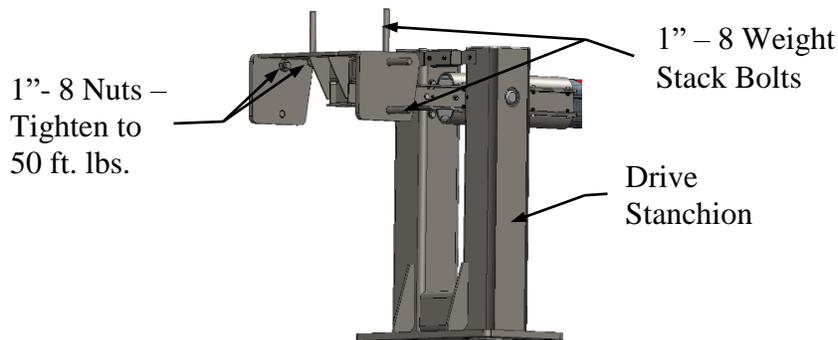

Figure 9 - 775MD Counterbalance Assembly (weights not shown for clarity)
4.3.8.1. Check the 1 in. nuts holding the counterbalance weights. If loose, tighten to 50 ft. lbs. See **Figure 9 - 775MD Counterbalance Assembly** (*weights not shown for clarity*).